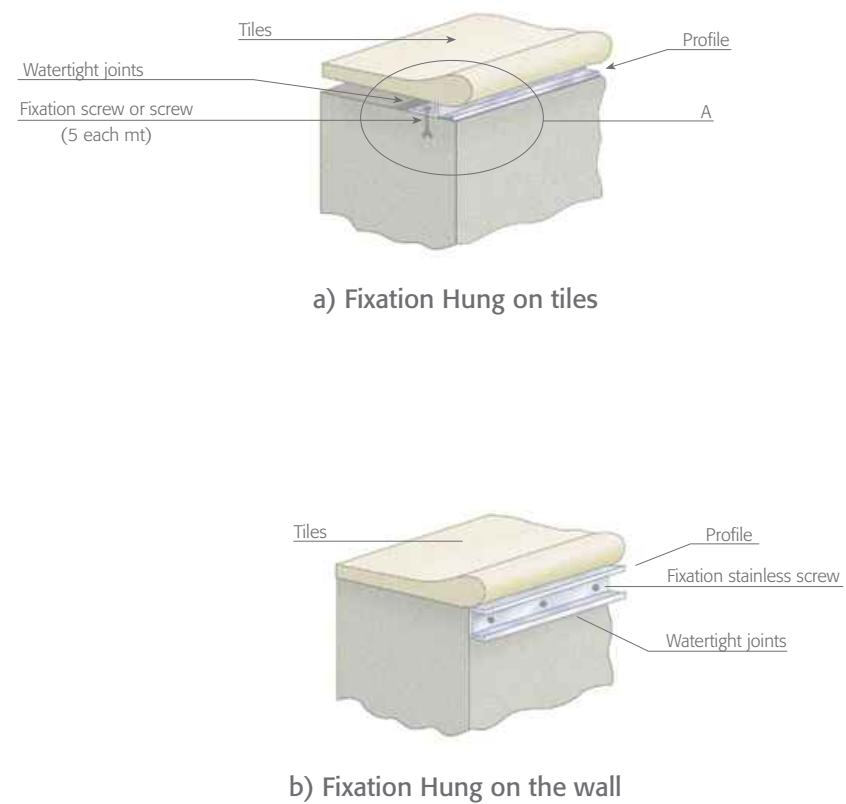

Figure 2: Method of fixation type "hung"
- fixing sections (as per sketch in Fig. 2);